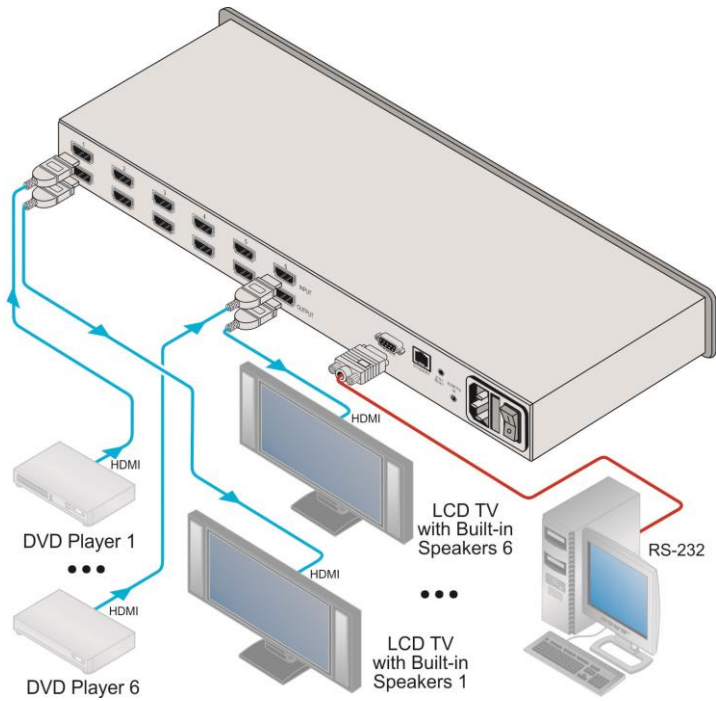

Figure 3: Connecting the VS-66HN 6x6 HDMI Matrix Switcher
**To connect the VS-66HN 6x6 HDMI Matrix Switcher as illustrated in the example in Figure 3:**
4. Connect the device to the mains electricity (not shown in Figure 3).